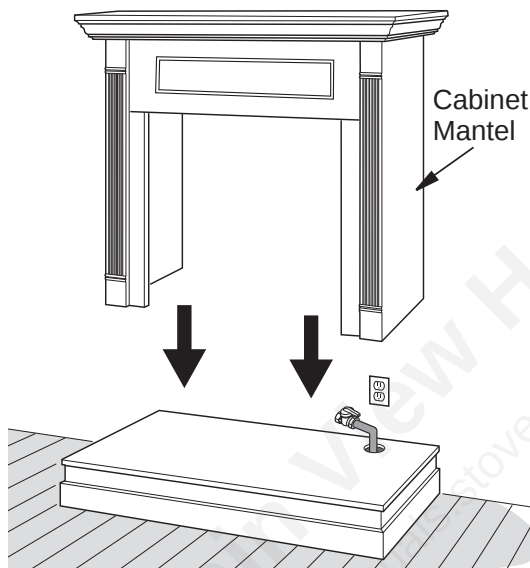

Figure 10 - Installing Cabinet Mantel
6. Center cabinet mantel on hearth base (see **Figure 10, Page 13**). Make sure mantel is flush against wall.